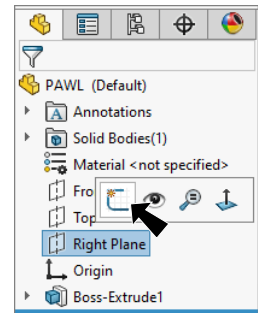

Fig. 8
Step 1. Click **Right Plane**  in the Feature Manager and click **Sketch**  on the context toolbar, **Fig. 8**.